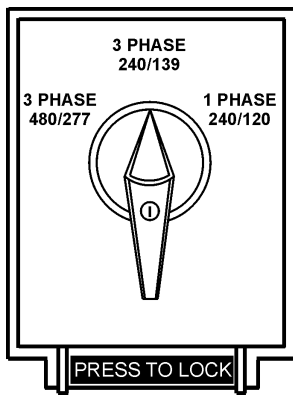

Figure 13. Voltage Selector Switch
A wide range of voltages are available to supply voltage for many different applications. Voltages are selected by using the **voltage selector** switch (Figure 13). To obtain some of the voltages as listed in Table 7 (see below) will require a fine adjustment using the **voltage regulator (VR) control knob** located on the control panel.
The voltage selector switch (Figure 13) is located above the output terminal panel's Hard Wire Hook-up Panel. It has been provided for ease of voltage selection.